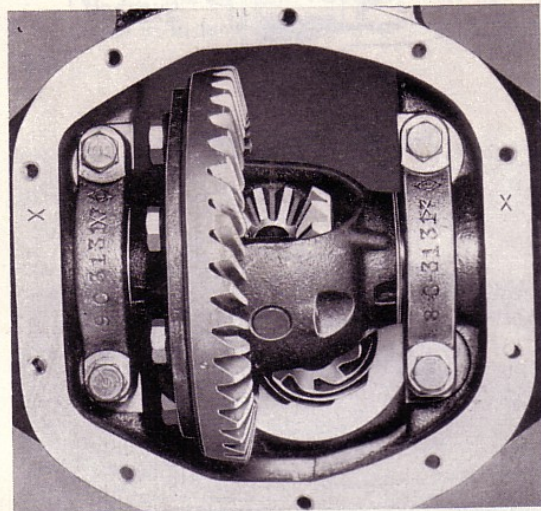

Fig. 28. Line-up marks on cap and carrier
5. Check the line-up marking on the cap and carrier, see Fig. 28. If there are no line-up marks, or if they are difficult to see, mark one side with a punch. Remove the cap.